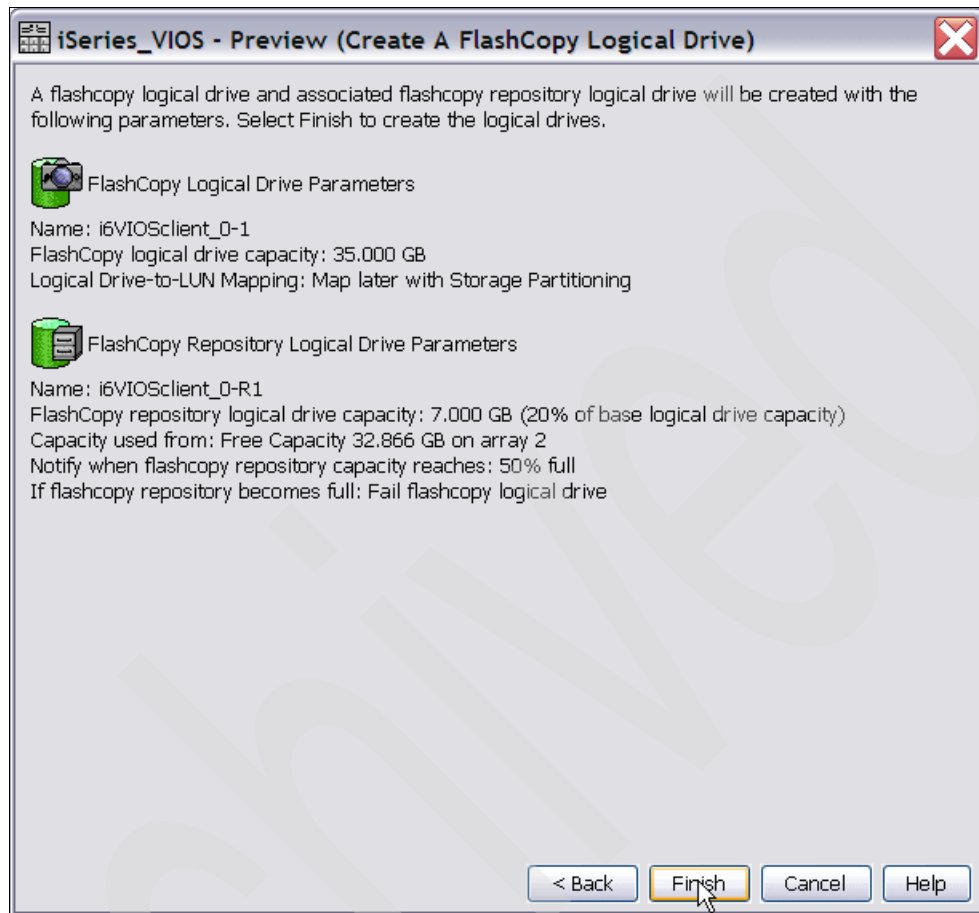

Figure 8-10 Finish creating FlashCopy logical drive
11. Check the characteristics of the FlashCopy logical drive being created. If they are okay, click **Finish** to create the drive, as shown in Figure 8-10. Click **OK** on the Completed (Create a FlashCopy Logical Drive) panel.